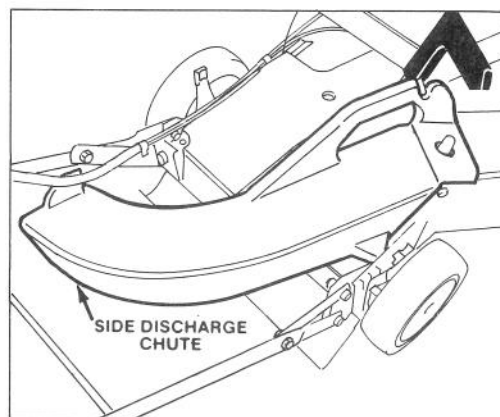

Figure 5
**SIDE DISCHARGE** — Disperse clippings with optional, rear-mounted side discharge chute which installs in seconds. Between the handle design lets you trim on both sides (Fig. 5).